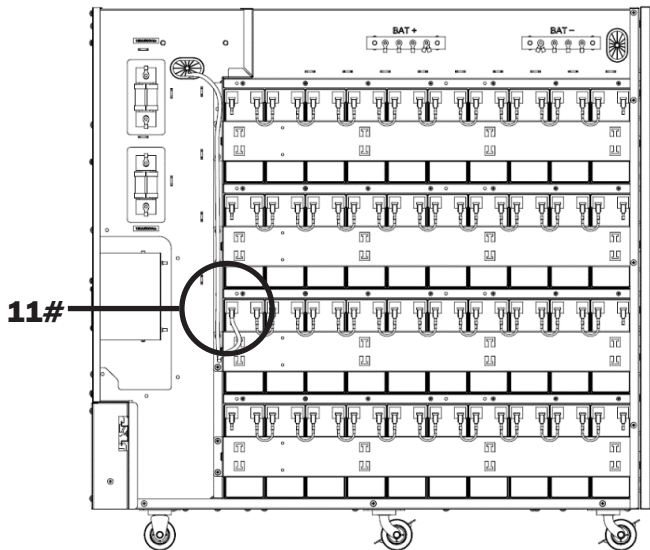

Figure 5-17A
23. Connect group 2 battery 10- to N battery bus bar (BAT N) (Figure 5-17A).